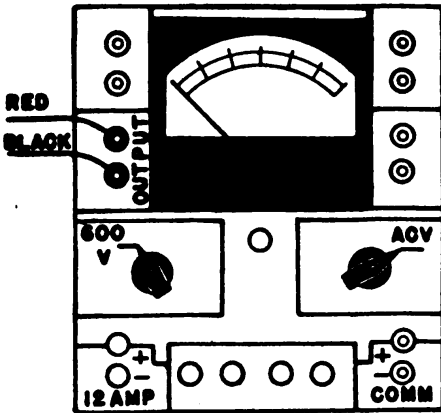

FIG. 6B: OUTPUT VOLTS
a. If the voice coil or secondary transformer-output leads are not accessible, the meter should be connected from the plate of the output tube to ground. In that case, insert the test leads in the two jacks marked OUTPUT VOLTS. (See figure 6B for switch positions and jack connections.) The circuit selector switch should be set to A.C.V. position, and the range selector to the 3 V., 12 V., 60 V., 300 V. or 600 V., depending upon the range desired.